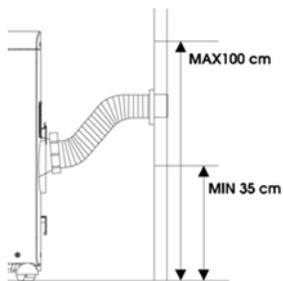

Fig. 12
1. Drill in an outside wall or in the window a 134 mm diameter hole. Keep in mind the heights shown in fig. 12.
4. Fit the end of the hose to the flange as shown in fig. 12. When the hose is not fitted, the hole can be closed with the flange cap.